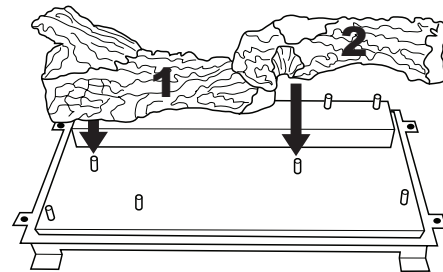

Figure 43 - Installing Logs No. 1 and No. 2
1. Place log #1 (left base log) onto pin on left side of burner as shown in Figure 43.
2. Place log #2 (right base log) onto pin on right side of burner as shown in Figure 43.